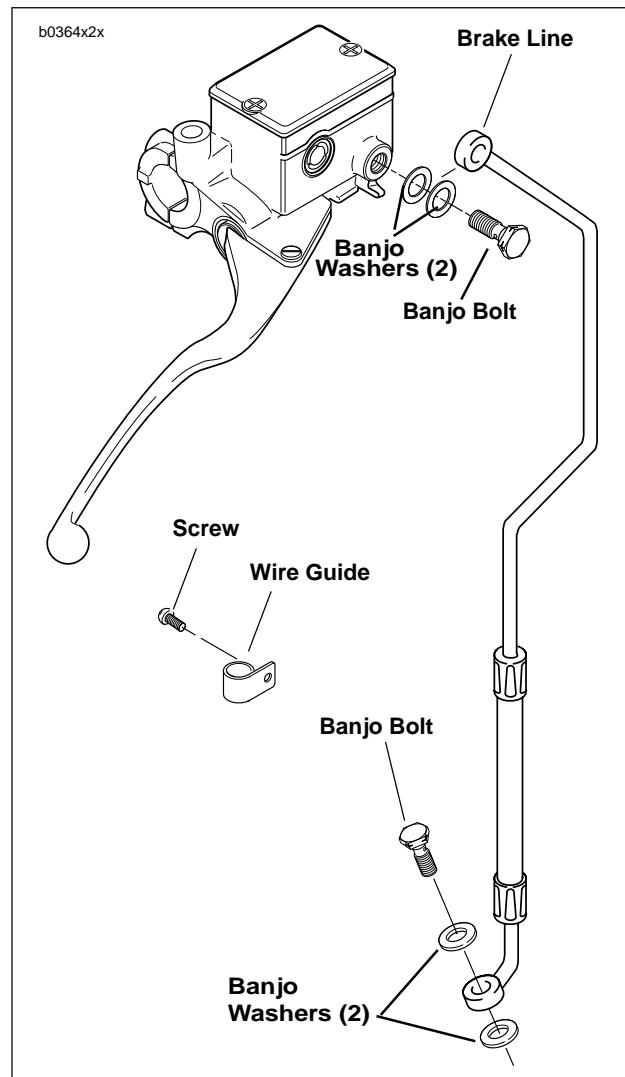

Figure 2-34. Front Brake Line
2. See Figure 2-34. Remove screw to detach brake line clamp from right side of lower triple clamp.
1. See Figure 2-34. Connect brake line to master cylinder using two **new** banjo washers and banjo bolt (metric).